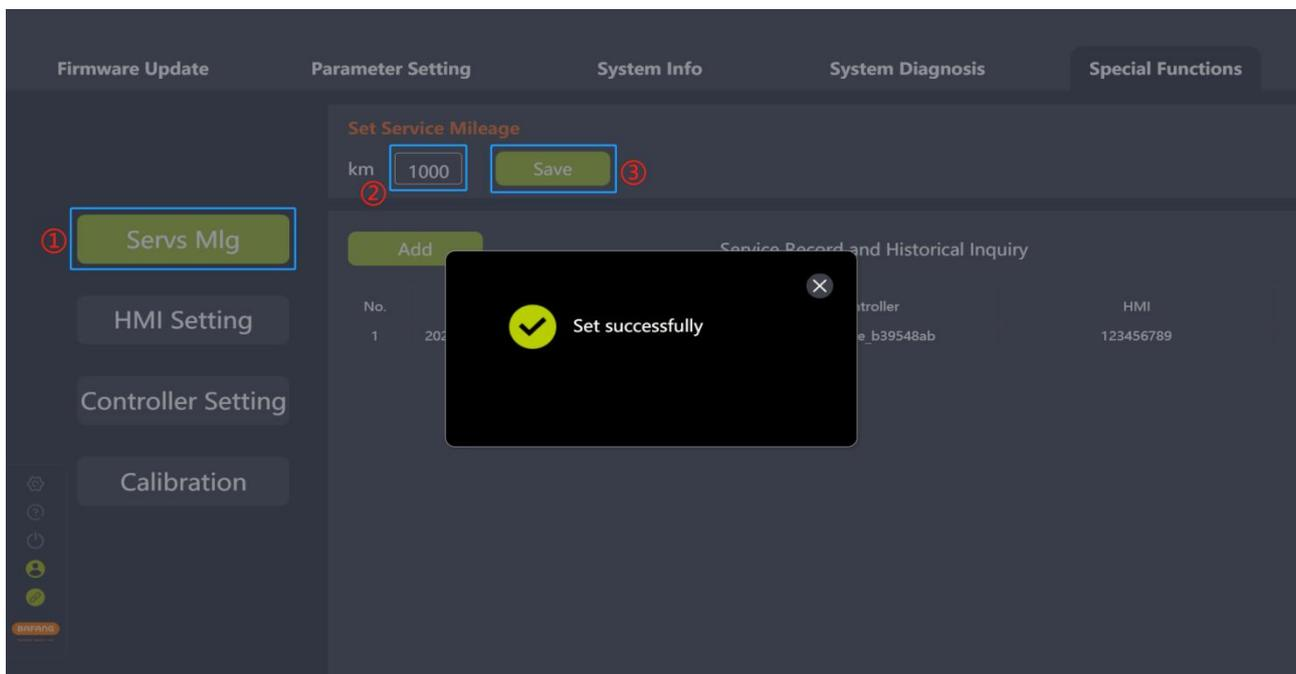

Fig. 8-1 Set service mileage
- (1) Connect the BESST Tool to the HMI and select "Servs Mlg".
- (2) Ensure the HMI supports function. If it supports, enter the service mileage.
- (3) Click "Save" (Fig.8-1).